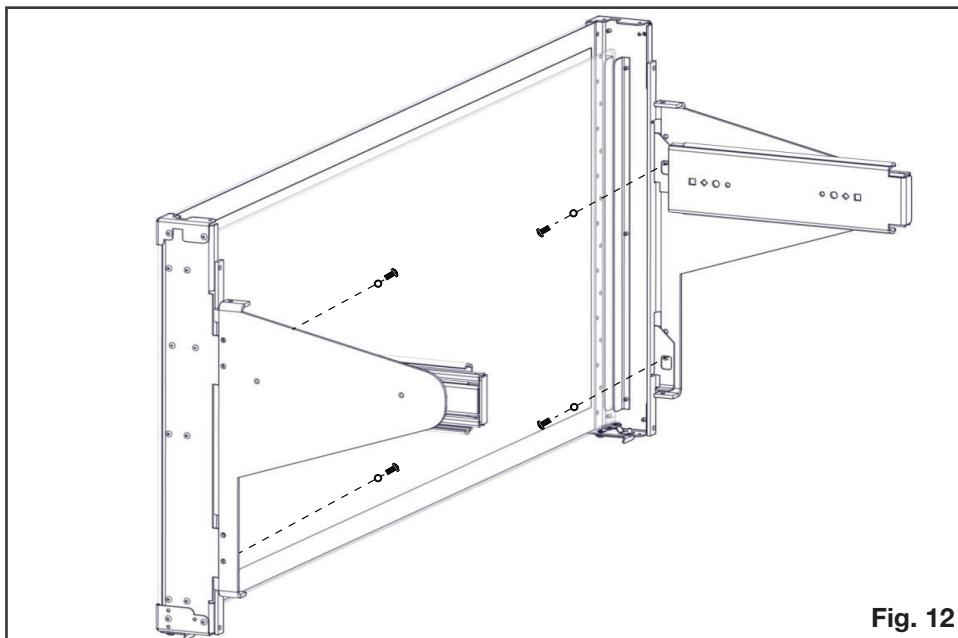

Fig. 12
9. Secure GGA-1 with 1 fastener and 1 washer on top and bottom of each GGA-1 slider bracket (total of 4) holding the GGA-1 tight to the GGA-1 slider bracket surface throughout (**Fig. 12**). Tighten firmly enough to hold GGA-1 against GGA-1 slider bracket. Do not fully tighten until adjustment is complete and during final GGA-1 installation.